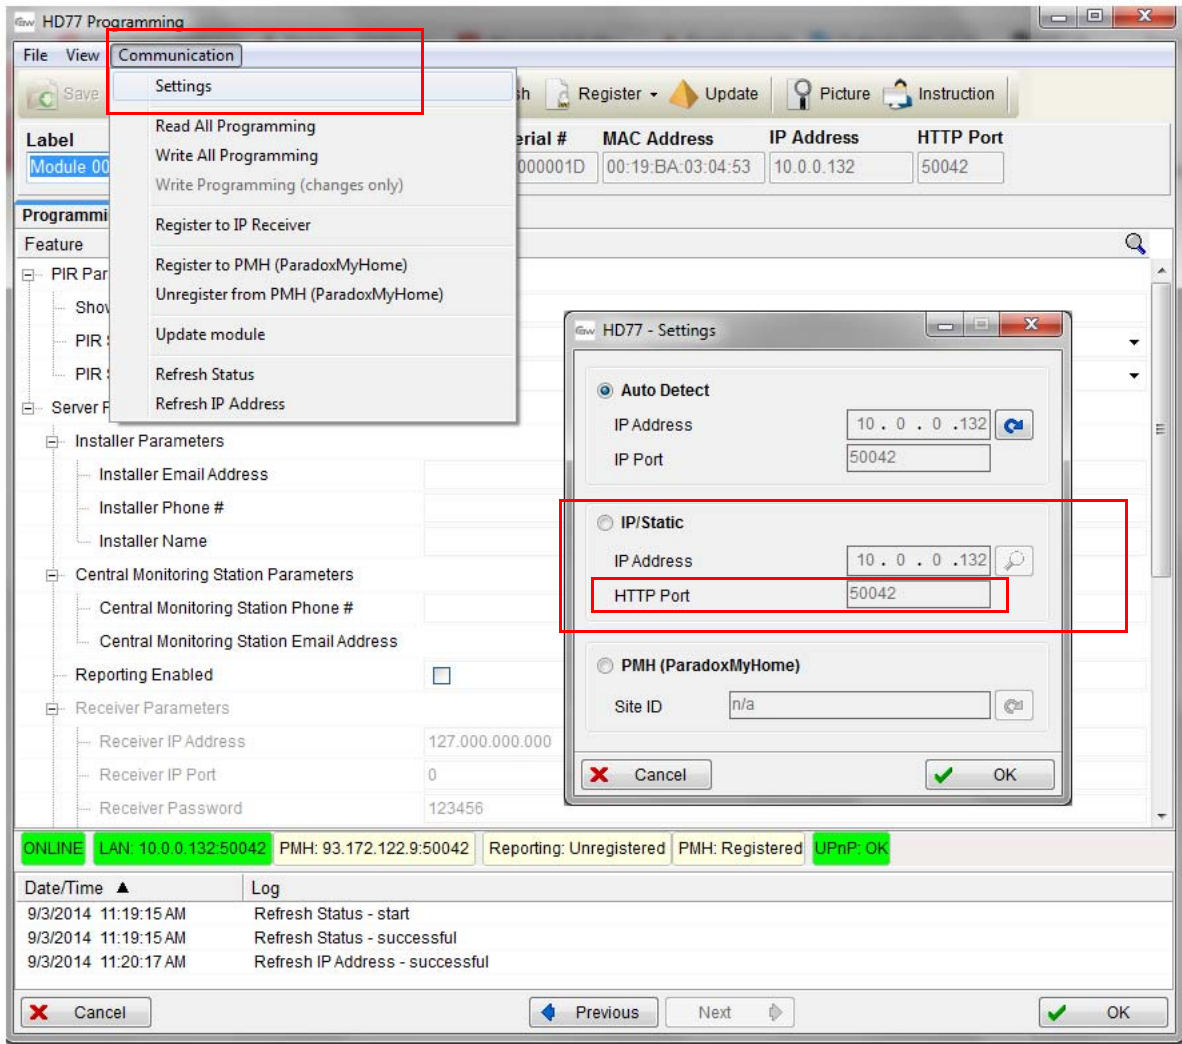

Figure 54 – HD77 — Settings Update Graphic
6. Go to HD77 — Settings. See (see *Figure 54*).
1. Go to HD77 — Communication — Settings. See (see *Figure 54*).